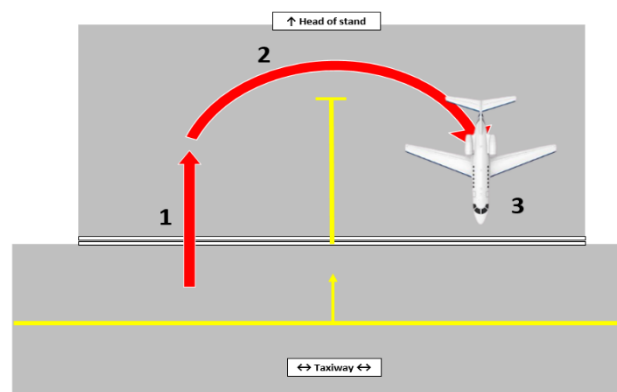

Fig 1. 'Nose out' parking procedure.
- 35 Aircraft with a wingspan of <29m and a length <30m may be marshalled on stand to park facing 'nose outwards' in relation to the stand. When required to do so, a GAL marshaller will guide the aircraft from the taxiway centreline onto the stand area. **Note:** this may initially be offset in relation to the parking stand centreline, or by using available space on an adjacent stand. The marshaller will then turn the aircraft using the available space so the aircraft is brought to a stop to park facing the desired direction as shown in Fig1 below.